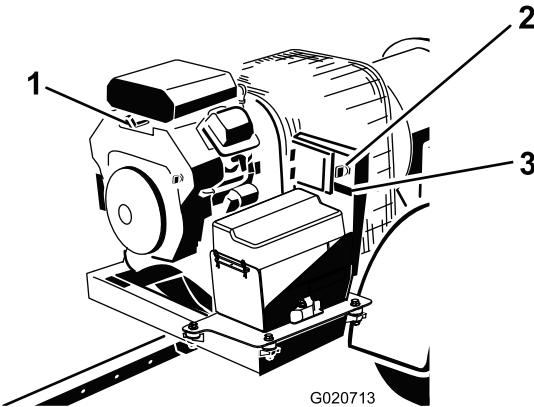

Figure 14
3. Rotate the engine ignition key to the “START” position and quickly release it to the “ON” position (Figure 14). This wakes up the receiver.
4. If leaving the machine, rotate the key to the OFF position and remove it from the engine (Figure 14).